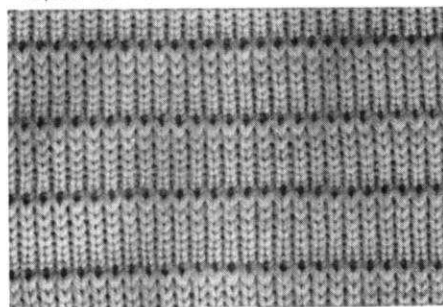

Fig. 28
#### No. 4. STEP PATTERN (IV), fig. 28